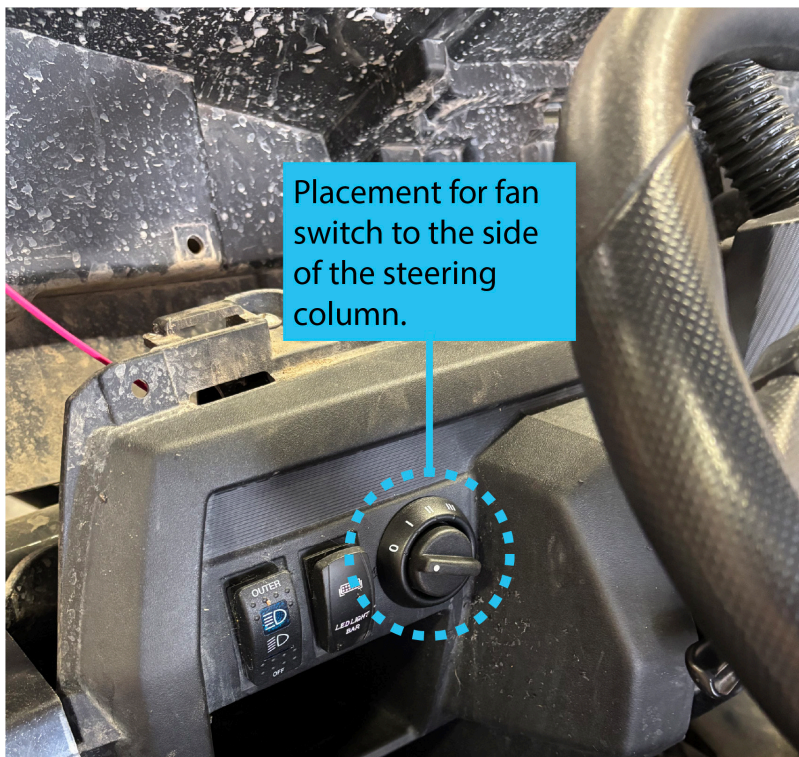

FIGURE 5
17. Mark a spot to the right of the steering column. FIGURE 5